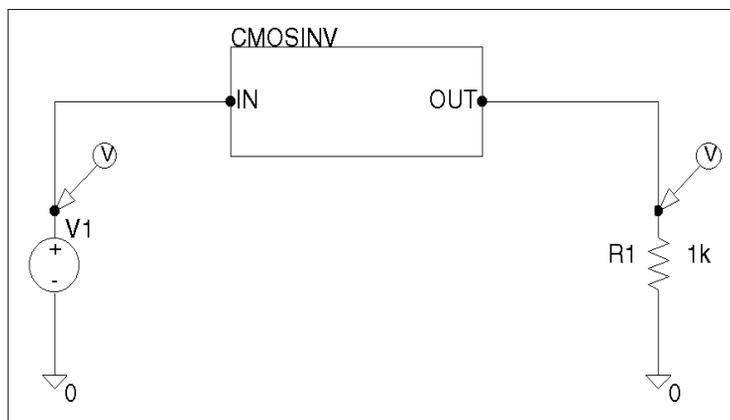
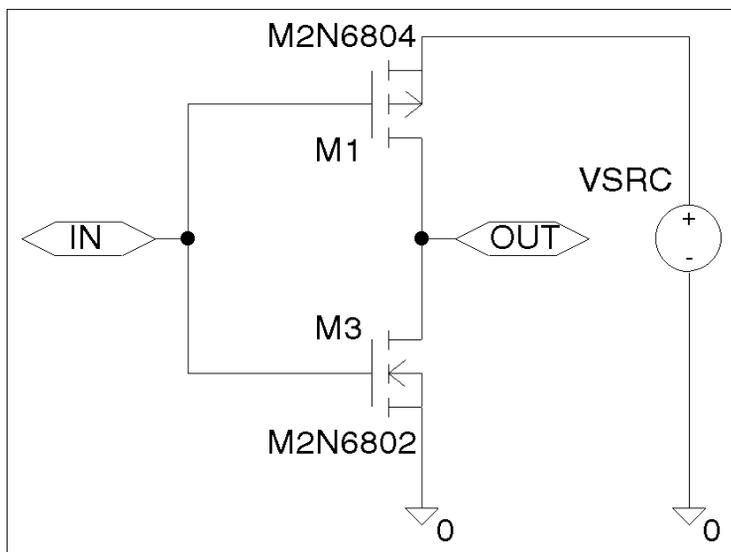

Figure 20 Top-level Schematic Drawing for CMOS Inverter
Figure 21 Schematic of CMOS Inverter
Follow this example to create the top-level circuit shown in Figure 20 and the inverter schematic shown in Figure 21.
Now that you have placed all of the symbols, wire the symbols to look like the schematic shown in Figure 20.
Now draw the schematic for the CMOSINV block as shown in Figure 21.
- 4 Press **Ctrl+R**, **Ctrl+R** and **Ctrl+F** to rotate the symbol twice and flip it once so that the source and bulk pins appear at the top. (To verify M1, see Figure 21 on page 248.)
Click the Draw Wire button and draw wires to connect parts and symbols as shown in Figure 21.